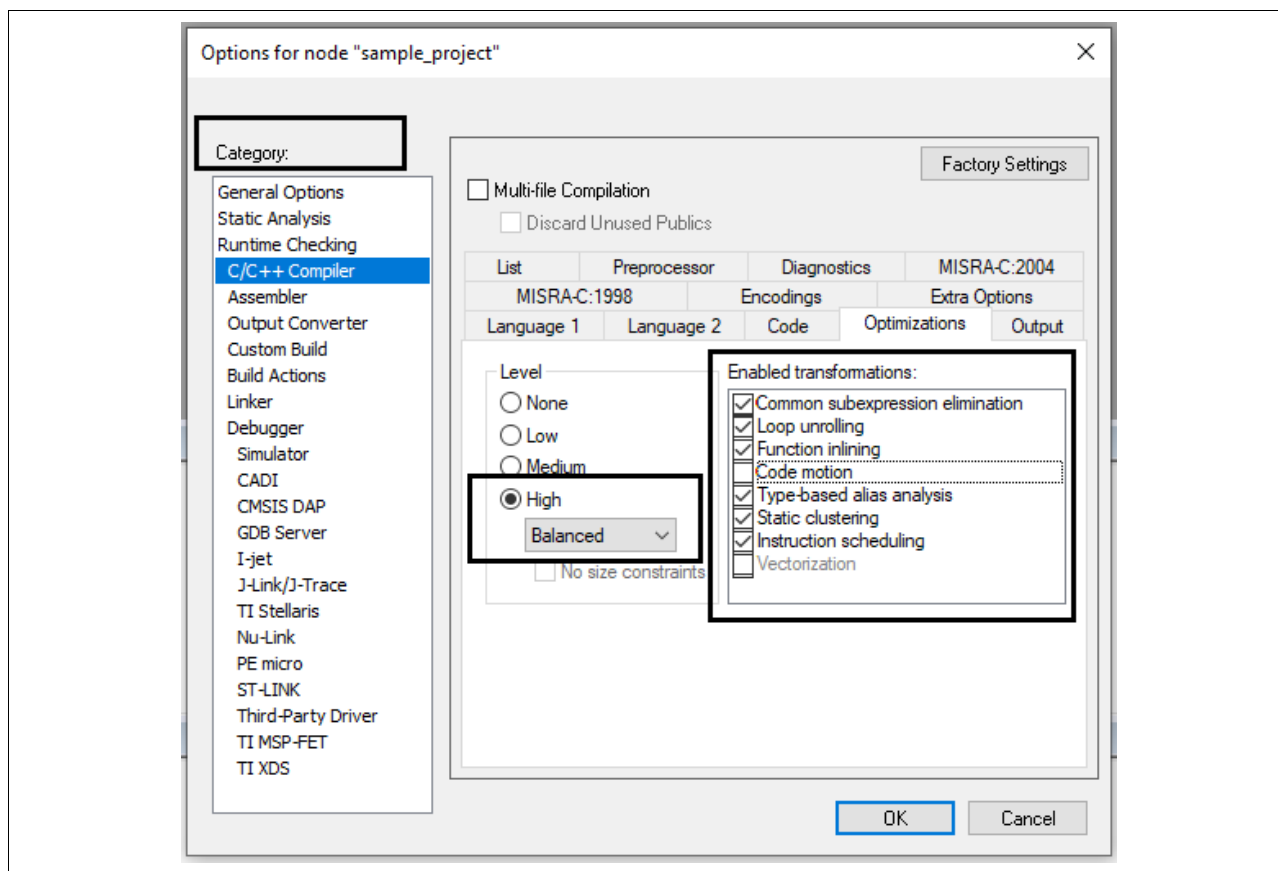

Figure 21. Optimizations
2. In the **Options** window, select **C/C++ compiler** in the **Category** section. Select **Optimizations** (on the right side) as shown in Figure 21:
3. As shown in Figure 21, select optimization **Level** as **High**, select **Balanced** in the menu below it and uncheck **Code Motion**.